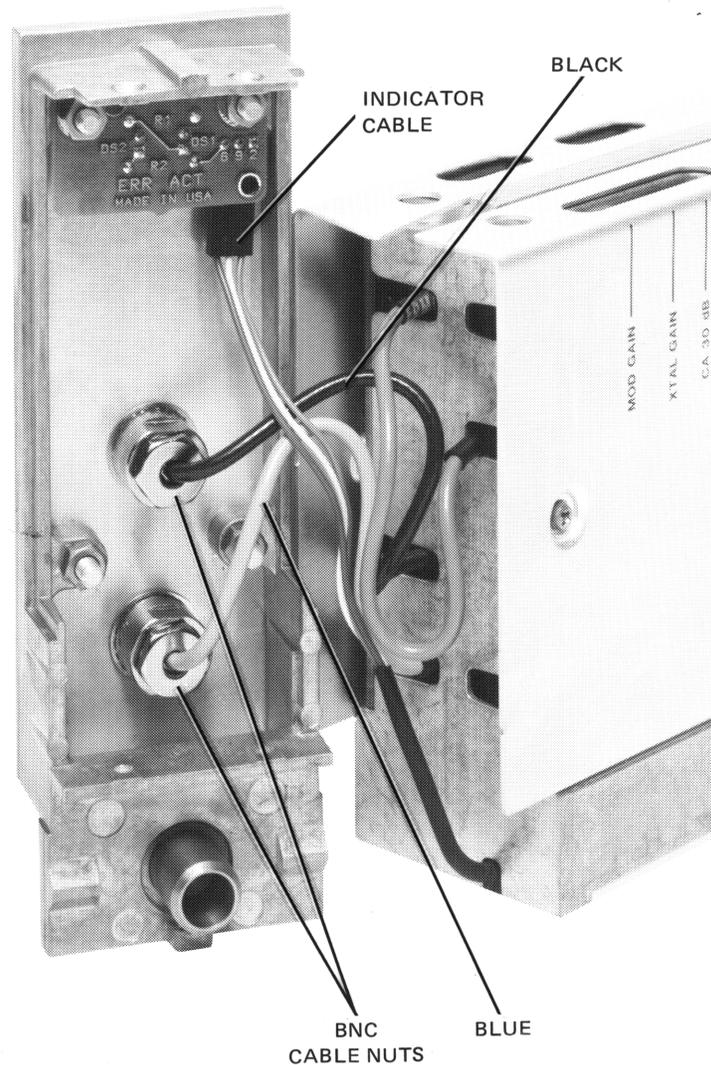

Figure 5-18. IF Front-Panel Removal
2. Unscrew the back-side cable nuts from both BNC connectors, and remove both cables. See Figure 5-18.